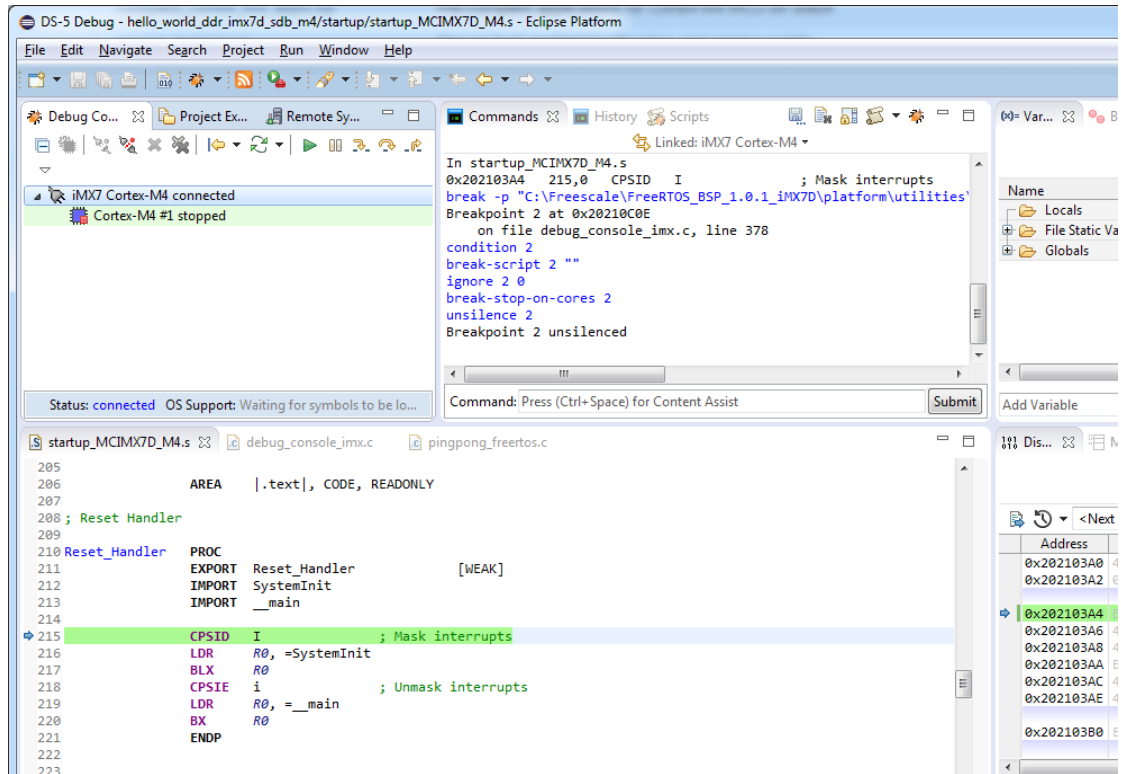

Figure 11 - Active debug session
- Click the “Apply” button and then the “Debug” button to initiate a debug session. When the application has been downloaded to the target it could look like Figure 11.